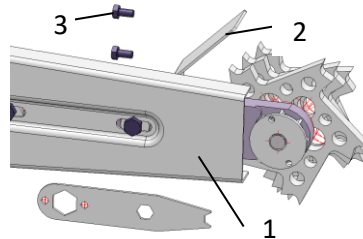

Fig. 4.: Mounting the protective plate
- > Fit the protective plate to the guide bar (**1** – Fig. 4).
- > The groove cutter has another protective plate (**2** -Fig.4). This is screwed to the housing with two hexagonal screws (**3** - Fig.4).